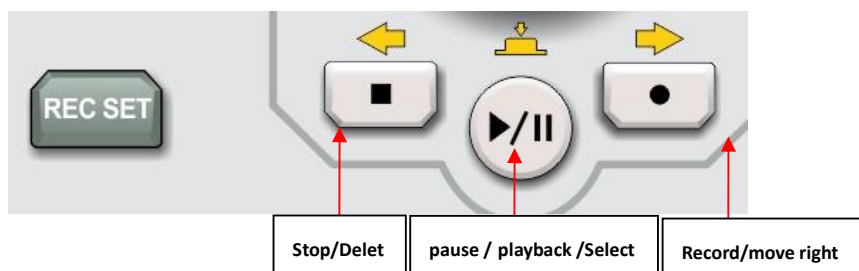

Figure 17-2
- (1) The ① on the above figure is CHA/ CHB information: The currently selected channel will be highlight.
- (2) “Limit” represents output amplitude limit, white is valid, gray is invalid.
- (3) The ② on the above figure is waveform reference list: Display the parameter of waveform in the list format. If an item in the list is in white, then it can use menu operating soft key, numeric keypad, direction key or Multipurpose knob to adjust the parameter. If the base color of the current character is the color of the current channel (It is white when the system is in setting), which represents the character is in the editing state and can be set with the direction key (as shown in Figure 17-2) or use the numeric keypad or Multipurpose knob to set the parameter.